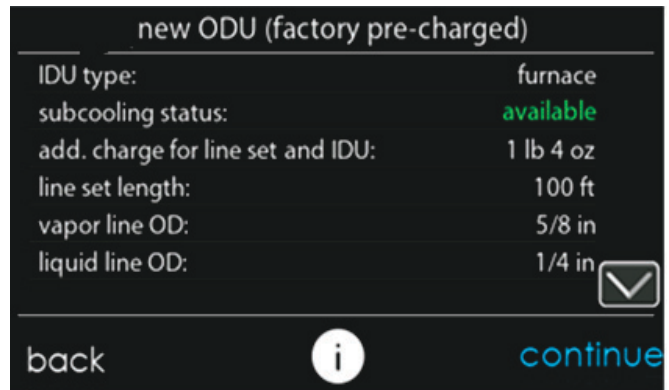
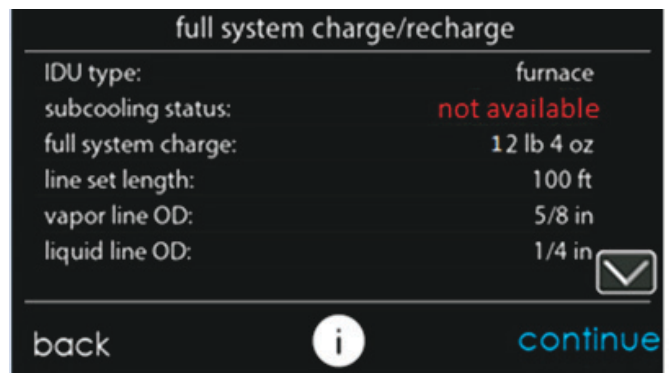

Fig. 16 – New ODU (factory pre-charged) - Subcooling Available
Fig. 17 – Full System Charge/Recharge - Subcooling Unavailable
- If indoor and outdoor conditions are in range, subcooling status will be green and available (Fig. 16). If conditions are outside the range, subcooling status will be red and unavailable and will require a partial weigh-in of charge (Fig. 17).